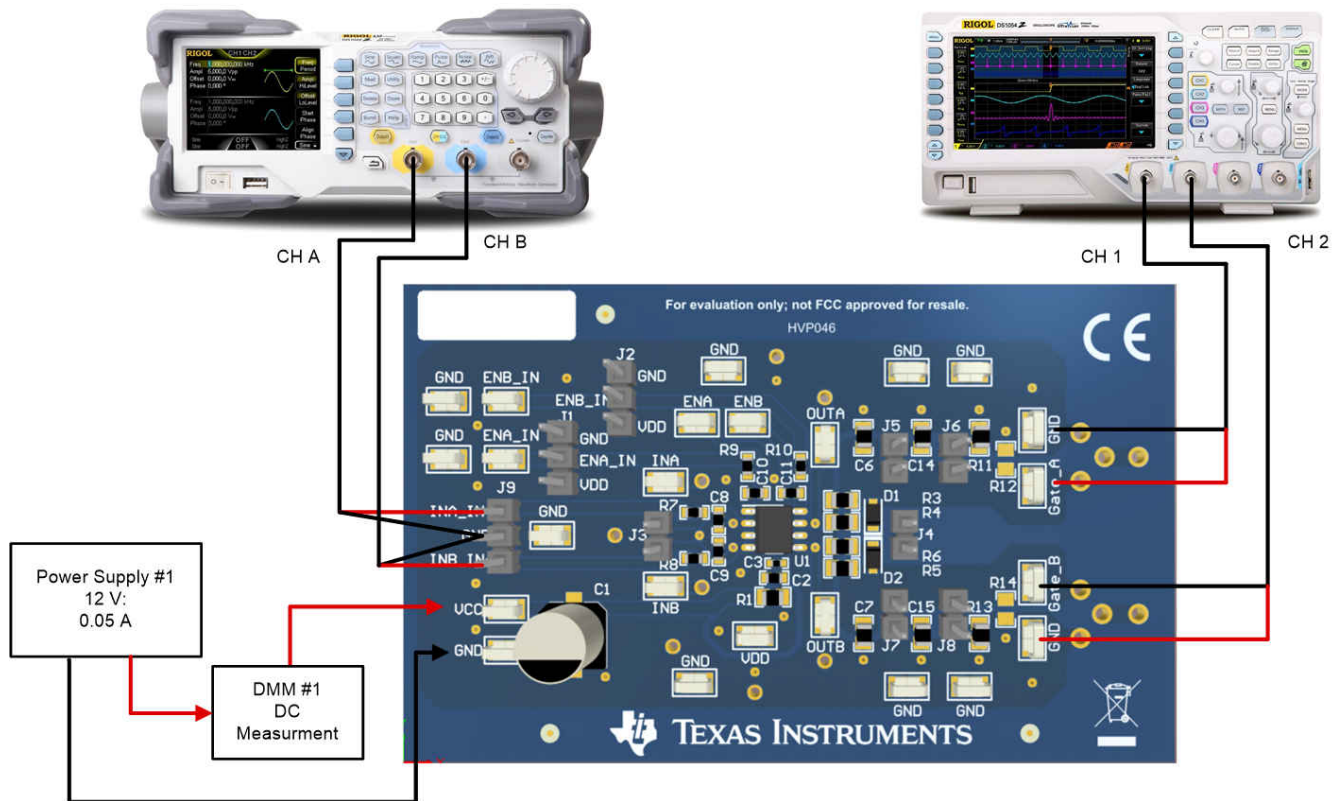

Figure 4-1. Bench Setup Diagram and Configuration
This procedure details how to configure the UCC27624EVM evaluation board. Within this test procedure, the following naming conventions are applied. See the UCC27624EVM *Bench Setup Diagram and Configuration*, Figure 4-1, for details.
Use the following connection procedure, refer to Figure 4-1.
- Function generator Ch-A channel applied on INA_IN+, see in Figure 4-1.
- Function generator Ch-B channel applied on INB_IN-, see in Figure 4-1.
- Power supply #1: positive node connected to input of DMM #1 and DMM #1 output connected to test point marked as VCC, negative node of Power Supply #1 connected directly to test point marked as GND; see in Figure 4-1.
- Connect oscilloscope Ch-1 probes to test points marked as Gate_A, smaller measurement loop is preferred; see in Figure 4-1.
- Connect oscilloscope Ch-2 probes to test points marked as Gate_B, smaller measurement loop is preferred; see in Figure 4-1.
1. Before beginning the power up test procedure, verify the connections with Figure 4-1.